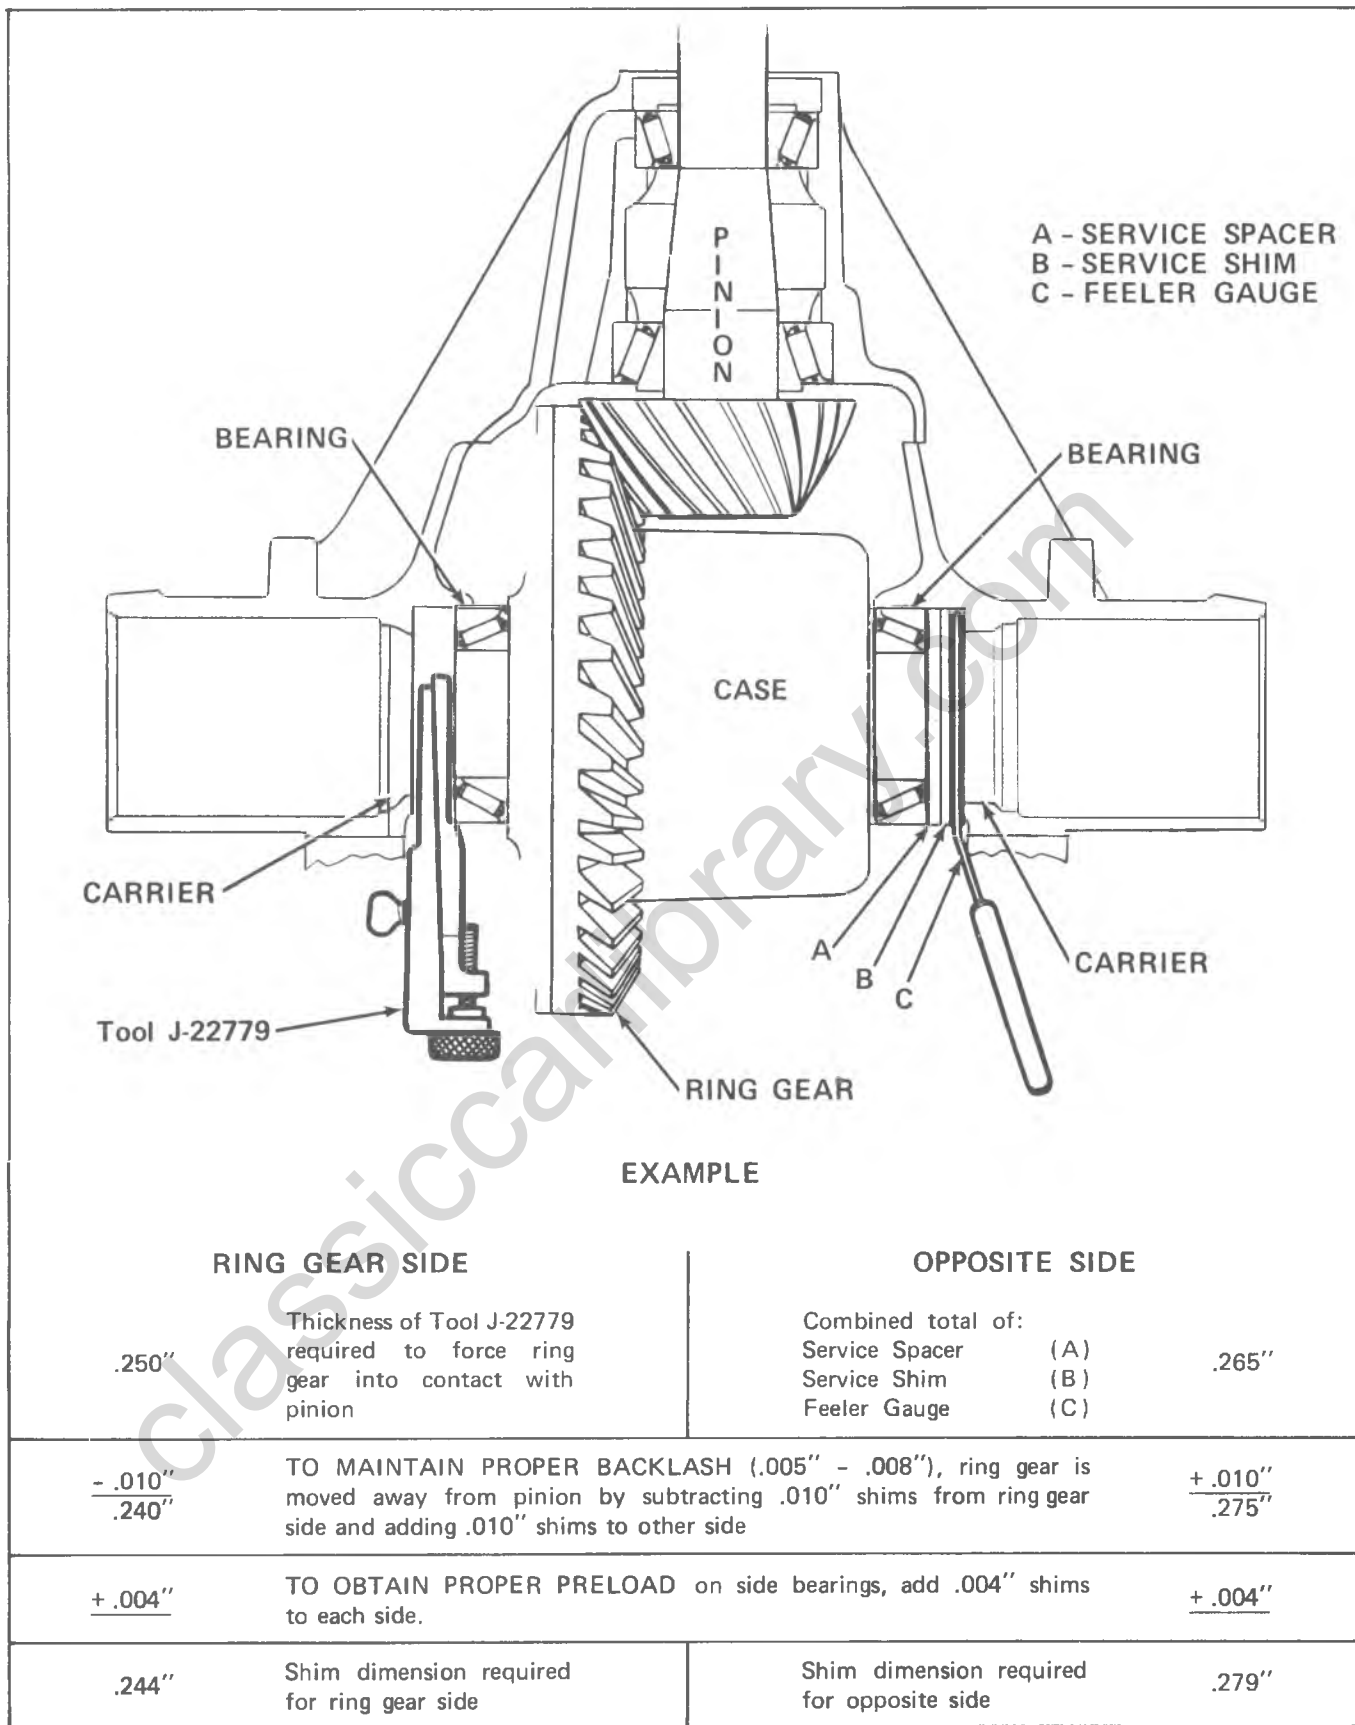

Fig. 7B—Determining Side Bearing Shim Requirements
8. Now measure the above dimensions as shown in Fig. 7B.
9. Use the sample procedure in Figure 7B to determine the proper thickness for each shim pack.